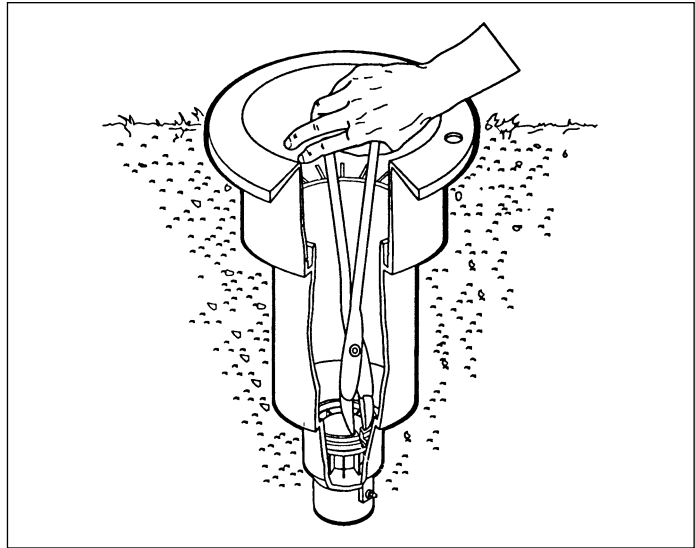

Figure 4
11. To remove valve assembly, squeeze ears of snap ring together with snap ring pliers (P/N 995-07) and remove snap ring from sprinkler body. (See Figure 4).